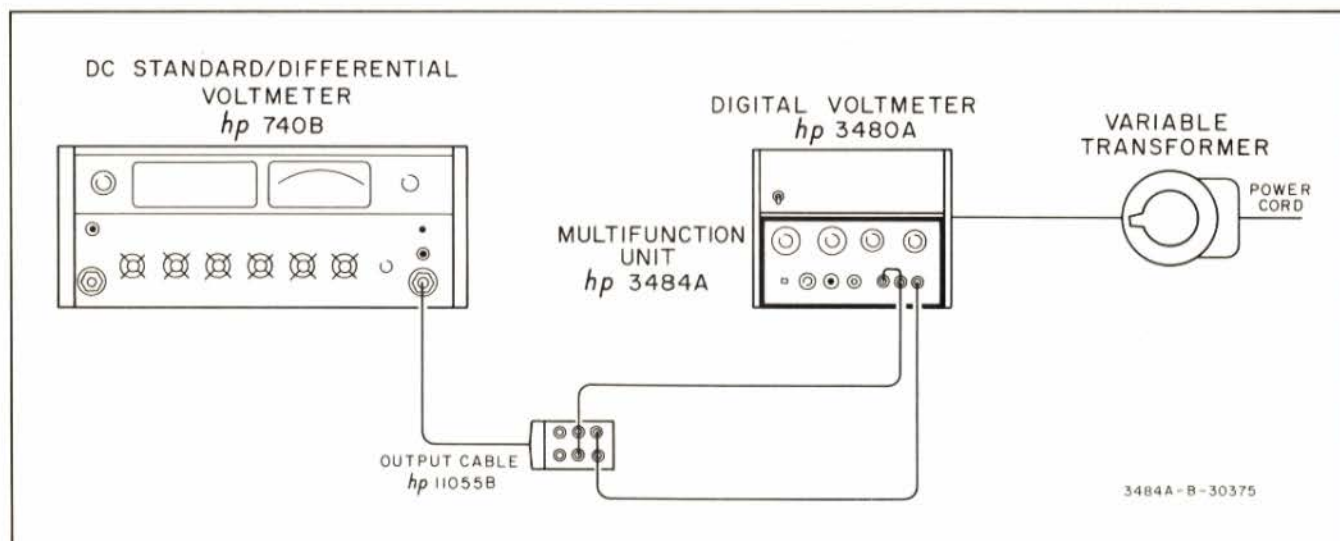

Figure 5-1. VDC Accuracy Check.
- a. Connect Model 3480A/B/3484A and variable line transformer as shown in Figure 5-1. Do not connect dc standard to 3484A.